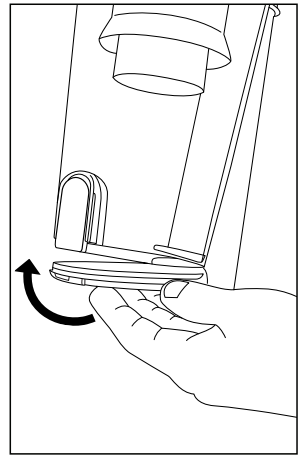

Fig. 2
3. Close the bottom of the dust cup, ensuring it locks into place (Fig. 2). Resume vacuuming.